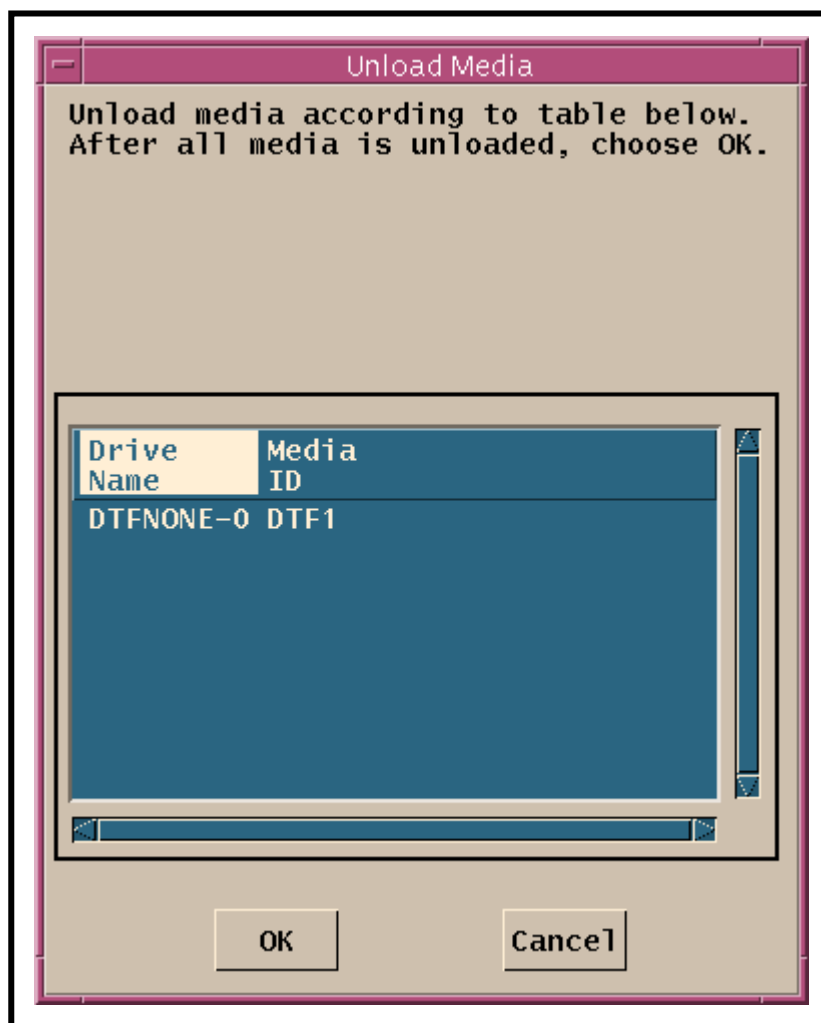

Figure 29. Unload Media Window (Drive Management)
- A drive management **Unload Media** window (Figure 29) is displayed.